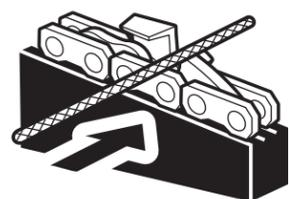

Fig. 41
- Keep the file level with the top plate of the tooth (Fig. 41). Do not let the file dip or rock (Fig. 42).